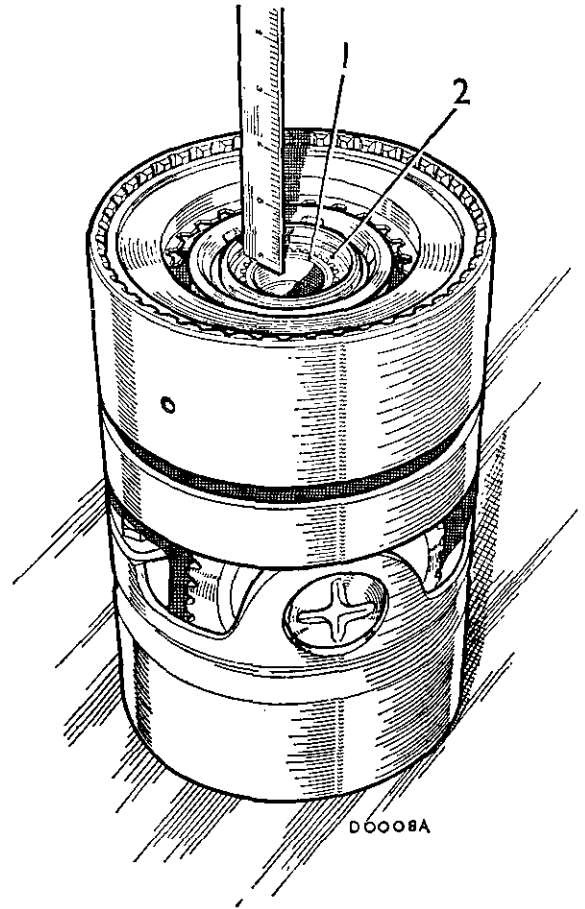

Fig. Fa.49
(32) Check across the splined end of the reverse output shaft and the adjacent face of the top and reverse clutch (Fig. Fa.49). Both faces must be exactly level with no gap, to ensure that the third speed reaction gear has no end-float and the correct backlash is maintained. If both faces are not level, remove and measure the thickness of the selective steel washer fitted in item (31) and fit the correct selective washer from the range available (see washer chart below).